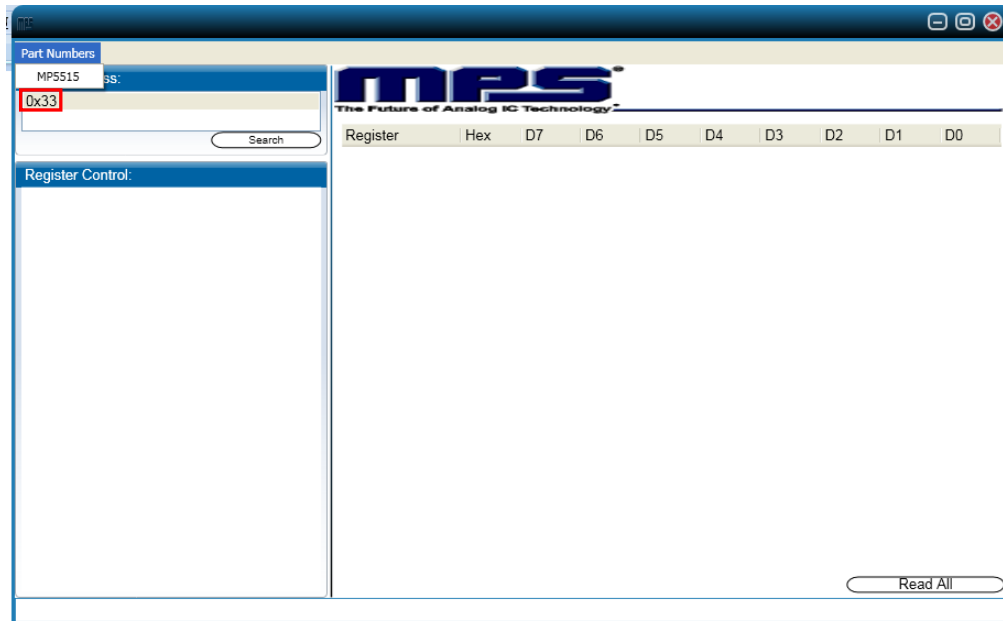

Figure 7: Appearance of Address Shows Successful Connection
- If the connection is successful, the address will be listed in the “Slave Address” (see Figure 7).